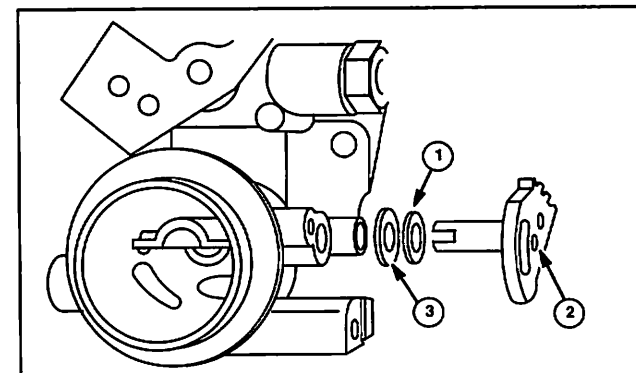

Fig. 74
1. Pull nylon choke shaft (2) sideways to separate choke shaft from choke plate.
2. Remove spring (Choke-A-Matic® only), felt washer (3), and metal washer (1) from choke shaft, Fig. 74.